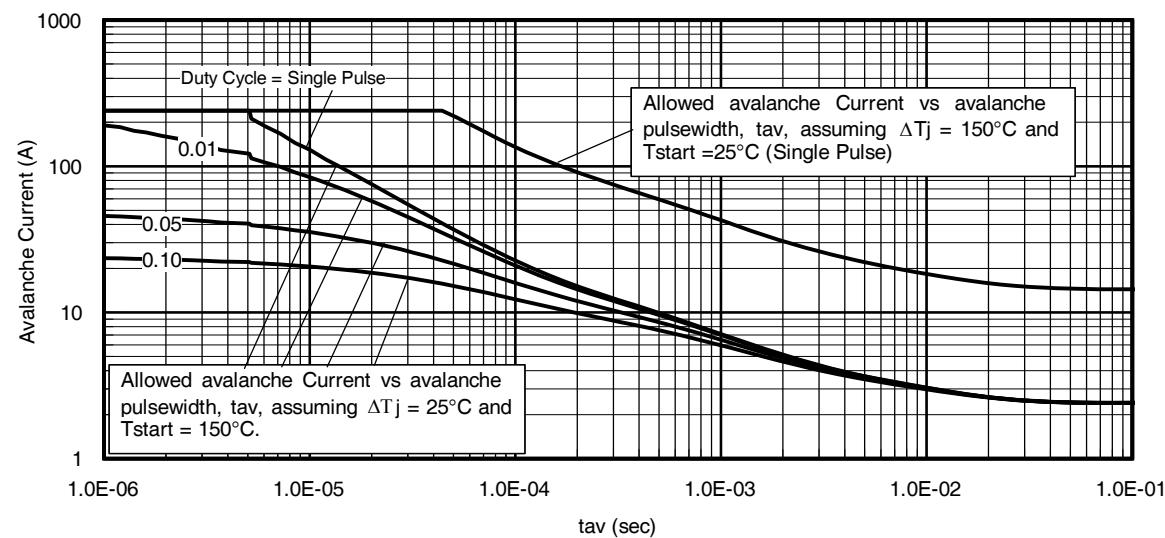

Fig 14. Avalanche Current vs. Pulse width
| I_{AR} | Avalanche Current ② | See Fig.14,15, 22a, 22b | A |
**Notes on Repetitive Avalanche Curves , Figures 14, 15: